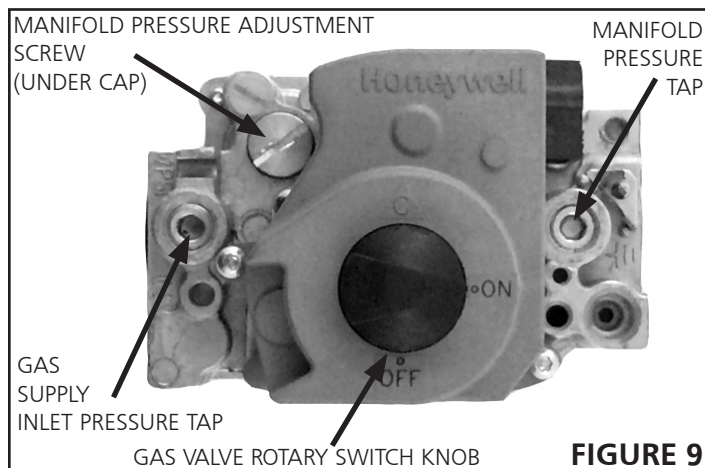

FIGURE 9
- There is a black rotary switch knob that can be moved between the on and off position. Rotate the switch knob to the off position. (See Figure 9)
2. After line pressure has been checked and adjusted, check manifold pressure. Correct manifold pressure is shown on the unit rating plate. See **figure 9** for gas pressure adjustment screw location. A natural gas to LP/propane gas changeover kit is required to convert unit. Refer to installation instructions provided with changeover kit for conversion procedure.